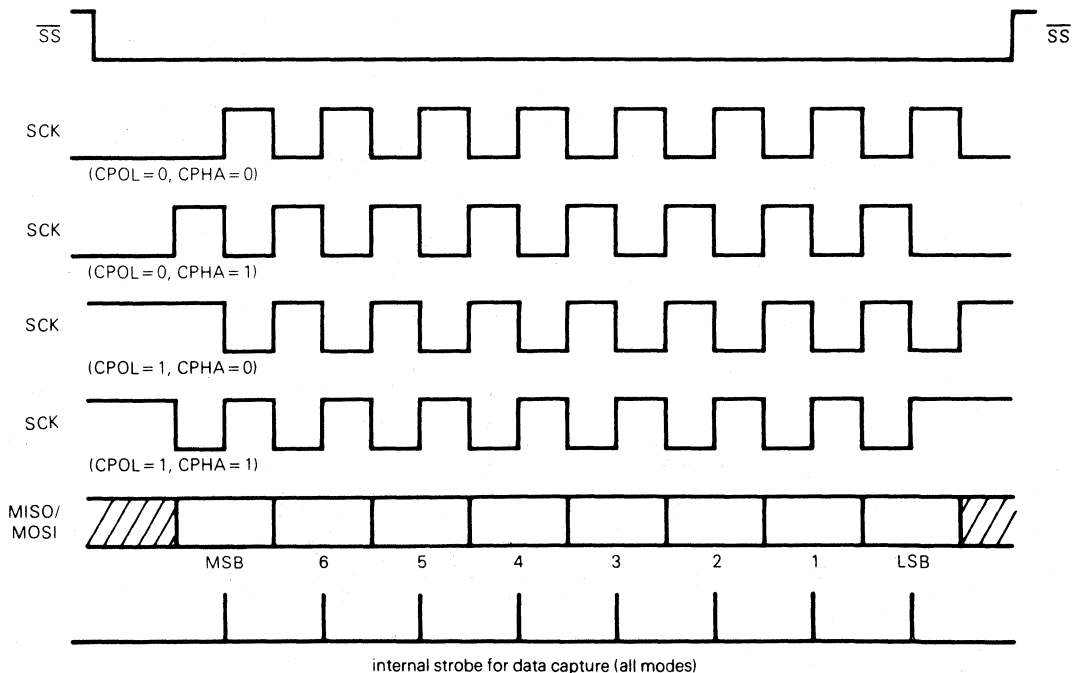

Figure 6-2. Data Clock Timing Diagram
significant bit first, least significant bit last. The timing diagrams of Figure 6-2 summarize the SPI timing diagram shown in Section 9, and show the relationship between data and clock (SCK). As shown in Figure 6-2, four possible timing relationships may be chosen by using control bits CPOL and CPHA. The master device always allows data to be applied on the MOSI line a half-cycle before the clock edge (SCK) in order for the slave device to latch the data.
The MISO pin is configured as an input in a master (mode) device and as an output in a slave (mode) device. In this manner data is transferred serially from a slave to a master on this line; most significant bit first, least significant bit last. The MISO pin of a slave device is placed in the high-impedance state if it is not selected by the master; i.e., its \overline{SS} pin is a logic one. The timing diagram of Figure 6-2 shows the relationship between data and clock (SCK). As shown in Figure 6-2, four possible timing relationships may be chosen by using control bits CPOL and CPHA. The master device always allows data to be applied on the MOSI line a half-cycle before the clock edge (SCK) in order for the slave device to latch the data.
The slave select (\overline{SS}) pin is a fixed input (PD5, pin 34), which receives an active low signal that is generated by the master device to enable slave device(s) to accept data. To ensure that data will be accepted by a slave device, the \overline{SS} signal line must be a logic low prior to occurrence of SCK (system clock) and must remain low until after the last (eighth) SCK cycle. Figure 6-2 illustrates the relationship between SCK and the data for two different level combinations of CPHA, when \overline{SS} is pulled low. These are: 1) with CPHA = 1 or 0, the first bit of data is applied to the MISO line for transfer, and 2) when CPHA = 0 the slave device is prevented from writing to its data register. Refer to the WCOL status flag in the serial peripheral status register (location \$0B) description for further information on the effects that the \overline{SS} input and CPHA control bit have on the I/O data register. A high level \overline{SS} signal forces the MISO (master in slave out) line to the high-impedance state. Also, SCK and the MOSI (master out slave in) line are ignored by a slave device when its \overline{SS} signal is high.
The serial clock is used to synchronize the movement of data both in and out of the device through its MOSI and MISO pins. The master and slave devices are capable of exchanging a data byte of information during a sequence of eight clock pulses. Since the SCK is generated by the master device, the SCK line becomes an input on all slave devices and synchronizes slave data transfer. The type of clock and its relationship to data are controlled by the CPOL and CPHA bits in the serial peripheral control register (location \$0A) discussed below. Refer to Figure 6-2 for timing.
The master device generates the SCK through a circuit driven by the internal processor clock. Two bits (SPR0 and SPR1) in the serial peripheral control register (location \$0A) of the master device select the clock rate. The master device uses the SCK to latch incoming slave device data on the MISO line and shifts out data to the slave device on the MOSI line. Both master and slave devices must be operated in the same timing mode as controlled by the CPOL and CPHA bit in the serial peripheral control register. In the slave device, SPR0, SPR1 have no effect on the operation of the serial peripheral interface. Timing is shown in Figure 6-2.
- B3, CPOL** The clock polarity bit controls the normal or steady state value of the clock when data is not being transferred. The CPOL bit affects both the master and slave modes. It must be used in conjunction with the clock phase control bit (CPHA) to produce the wanted clock-data relationship between a master and a slave device. When the CPOL bit is a logic zero, it produces a steady state low value at the SCK pin of the master device. If the CPOL bit is a logic one, a high value is produced at the SCK pin of the master device when data is not being transferred. The CPOL bit is not affected by reset. Refer to Figure 6-2.
- B2, CPHA** The clock phase bit controls the relationship between the data on the MISO and MOSI pins and the clock produced or received at the SCK pin. This control has effect in both the master and slave modes. It must be used in conjunction with the clock polarity control bit (CPOL) to produce the wanted clock-data relation. The CPHA bit in general selects the clock edge which captures data and allows it to change states. It has its greatest impact on the first bit transmitted (MSB) in that it does or does not allow a clock transition before the first data capture edge. The CPHA bit is not affected by reset. Refer to Figure 6-2.